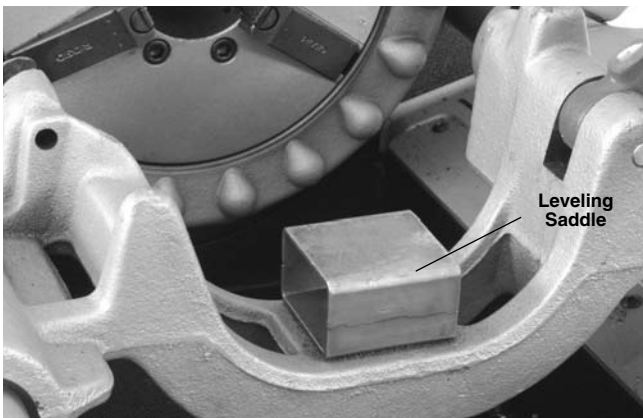

Figure 16 – Saddle on 535 Carriage
2. If using a 535M with the high clearance carriage, place the leveling saddle on the carriage as shown in Figure 16.
1. Place the leveling saddle on the carriage as shown in *Figure 16*.